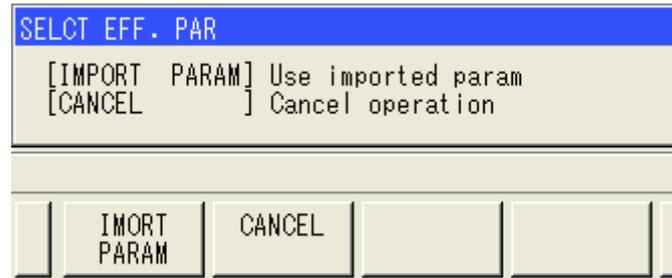

Fig. 9-8
4. After the importing is succeeded, the valid parameter is selected as Fig. 9-8. press , then press  to use the imported parameter, a dialog box pops up as Fig. 9-8, press  to complete the operation, or press  to cancel it.